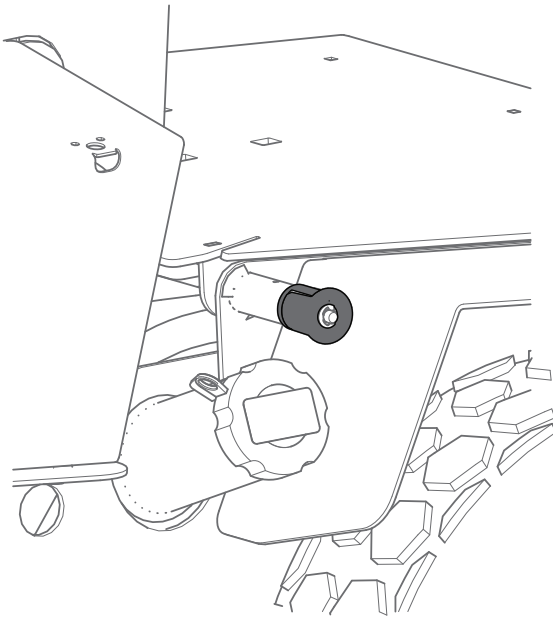
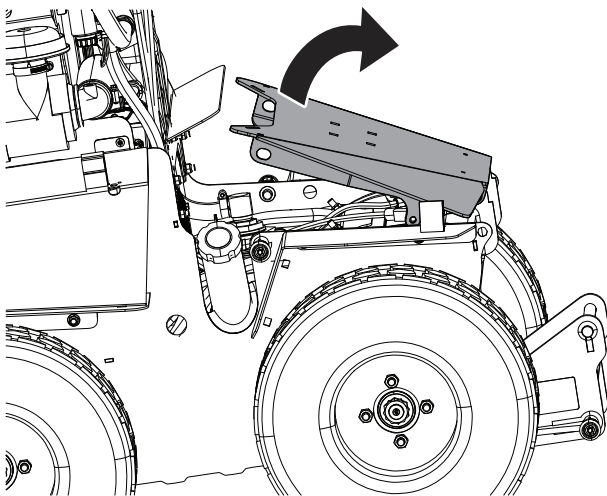

Figure 13
Figure 14
1. Release the quick pins to open the battery cover (Figure 13 and Figure 14).